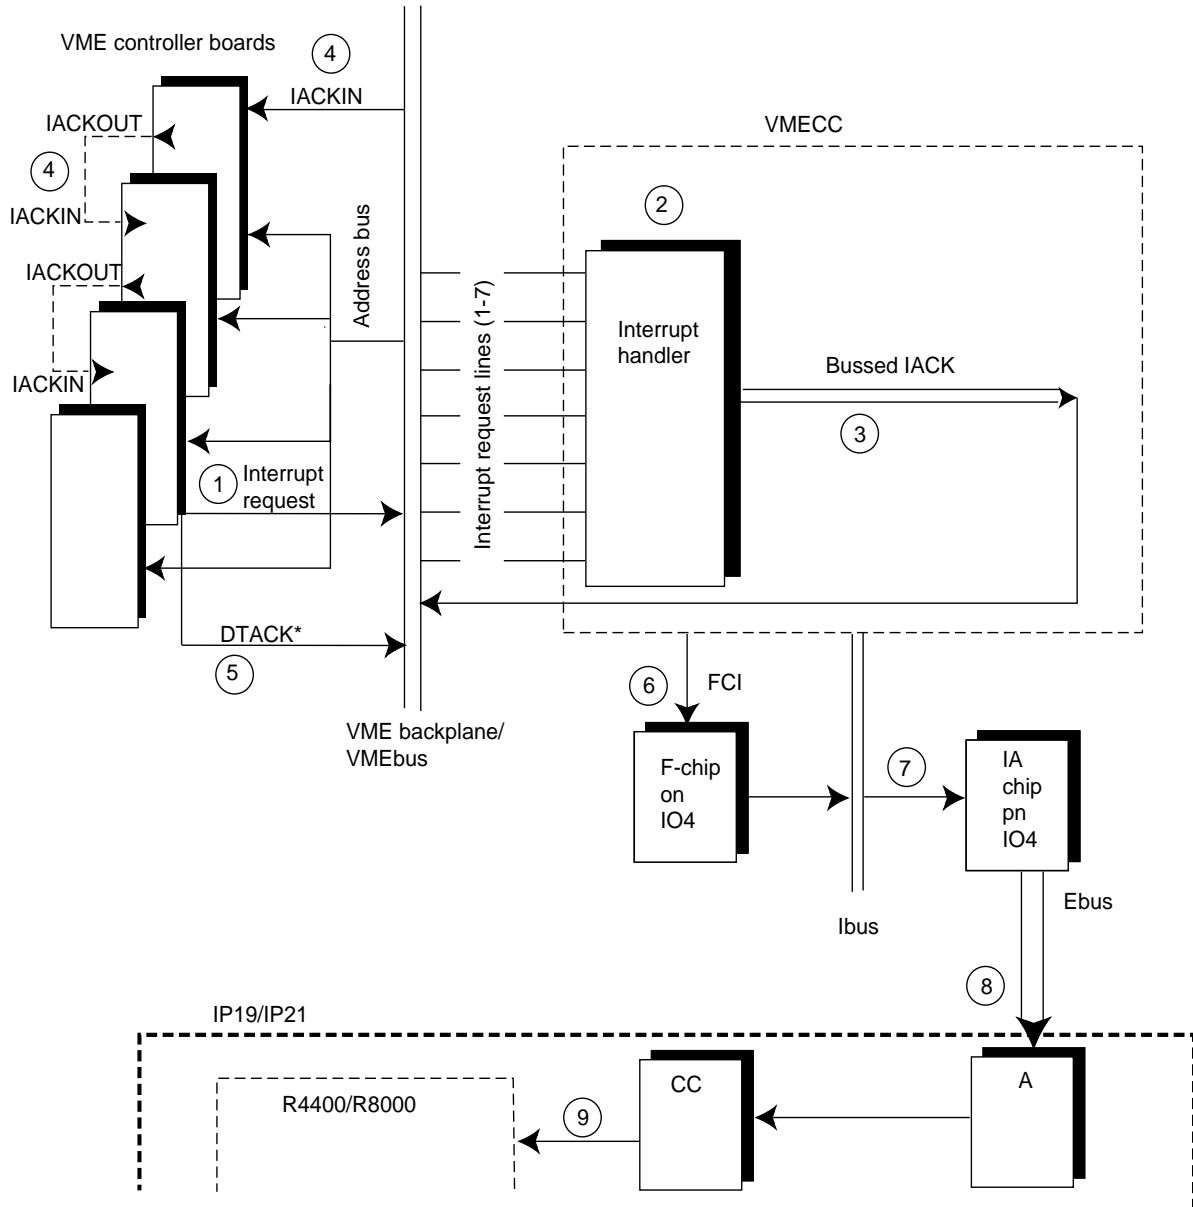

Figure E-5 VMEbus Interrupt Generation
The following text and Figure E-5 outline, how a VMEbus interrupt is generated.
4. If multiple VME boards are present, the bussed IACK signal is sent to the first VME controller as an IACKIN. As shown in Figure E-5, since the first controller is not the requesting master, it passes the IACKIN signal to the next board (in the daisy chain) as IACKOUT.